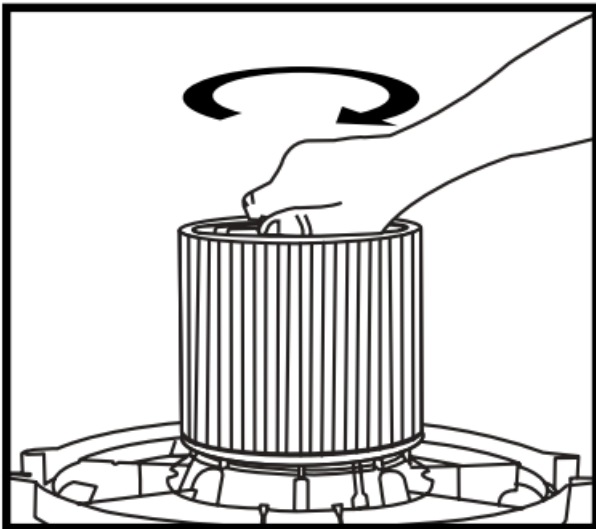

FIGURE 19
24. . Hold the tank cover with one hand, turn the handle on the filter retainer clockwise to tighten, locking the filter into place. **FIGURE 19.**